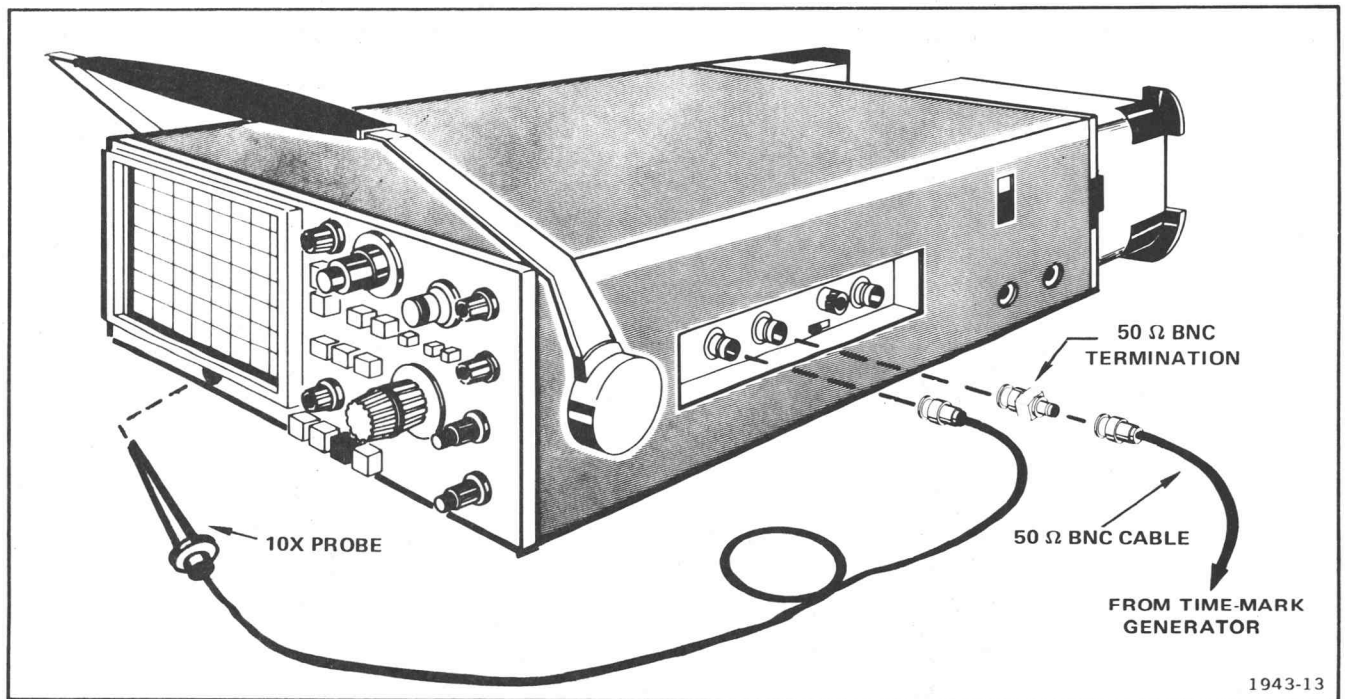

Fig 5-13
- a. Connect test equipment as shown in Fig. 5-13.